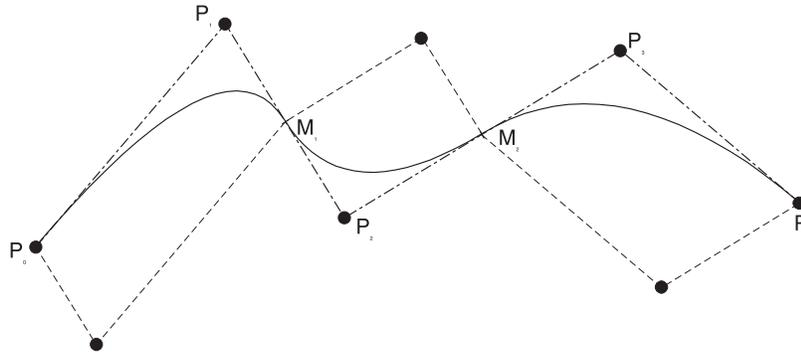

Figure 184. Fillets
- FILLETS** Draws curves that are created by joining the points with conceptual straight lines, and then drawing a curve that is tangential to the first line at its start point, the last line at its end point, and intermediate lines at their center points. The thickness and type of line is determined from the *linewidth* and *linetype* parameters or their defaults. See Figure 184 on page 238 for an example.